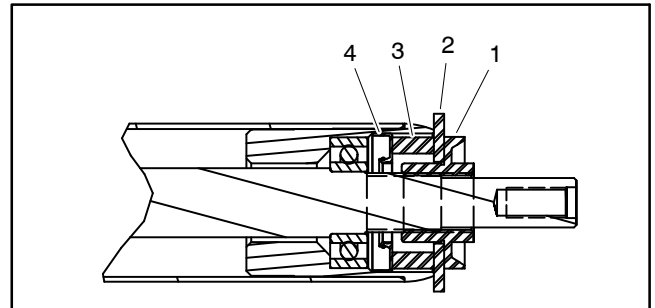

Figure 41
8. Position an assembly spacer and yellow assembly washer (see Special Tools) on each end of roller shaft (Fig. 41). Thread nut onto each end of shaft.